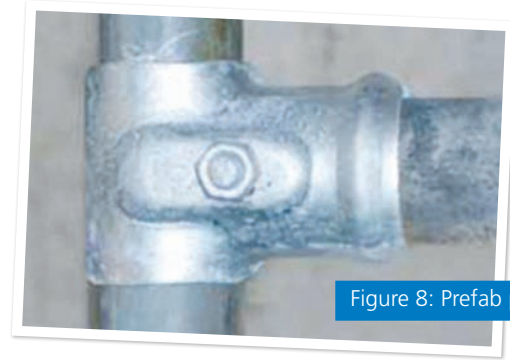

Figure 8: Prefab pipe fitting
- prefab pipe fitting see Figure 8;
The other end of the pipe is set into a concrete footing. Bracing is attached with prefab pipe fittings readily available from your supplier - See Figure 8. The structure can be covered with a prefabricated flexible netting cover with a sewn-in zippered entrance